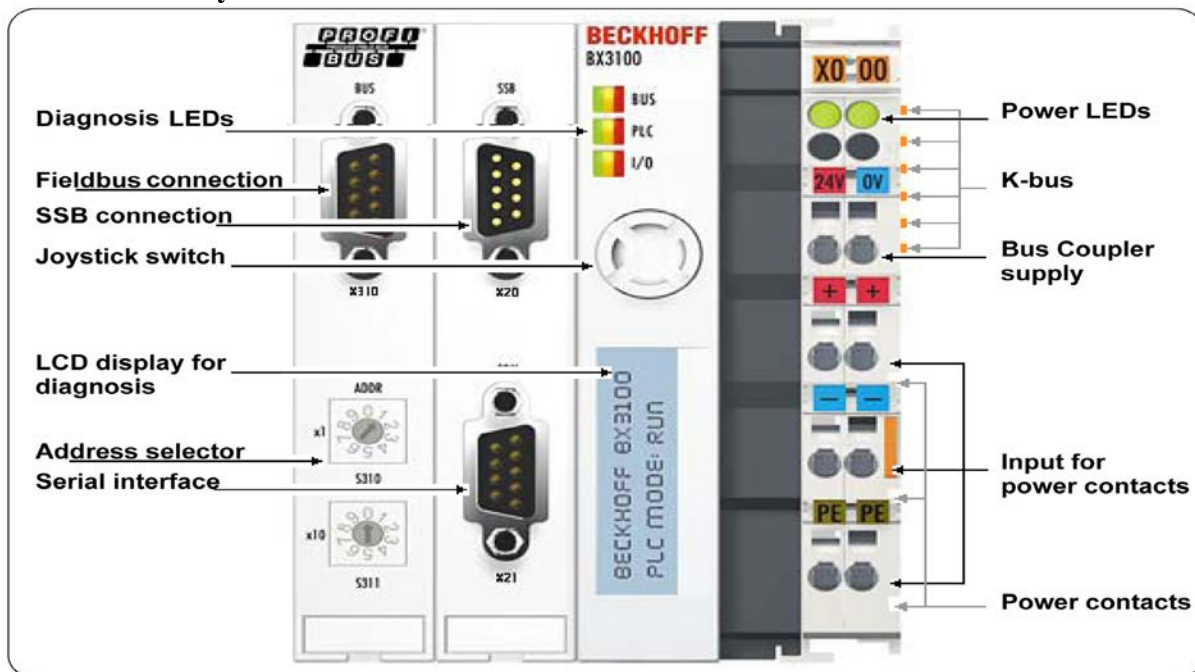

fig. 3.1
- added I/O Modules, powered via power contacts (“Power contacts”, in fig. 3.1).
- field bus interface (“Fieldbus connection”, in fig. 3.1).
On the right hand face of the Bus Terminal Controller there are three spring contacts (“Power contacts”, in fig. 3.1) for the added I/O Modules external peripherals units supply voltage distribution.
The plastic tongue (orange colour in fig. 3.1) and groove guides on the top and bottom of the Bus Terminal Controller and of the added I/O Modules guarantees that the power contacts mate securely.